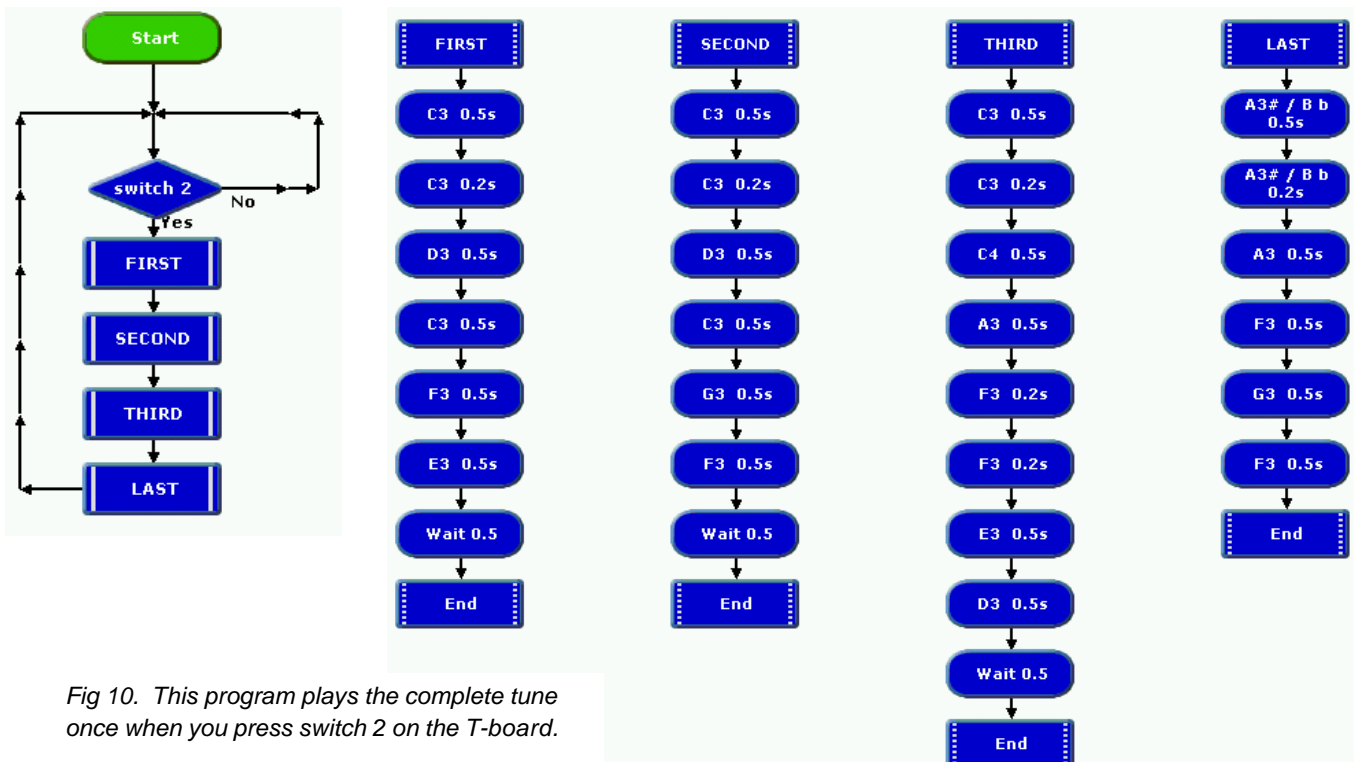

Fig 10. This program plays the complete tune once when you press switch 2 on the T-board.
4. Build the other three procedures called SECOND, THIRD, LAST, as shown in Fig 10. You can save yourself time by copying commands (See Help Sheet A).
5. Finally, build the main routine under the Start command, as shown in Fig 10. It begins with a Decision command set to check switch 2. Then there are four **Do Proc.** (short for "Do Procedure") commands.